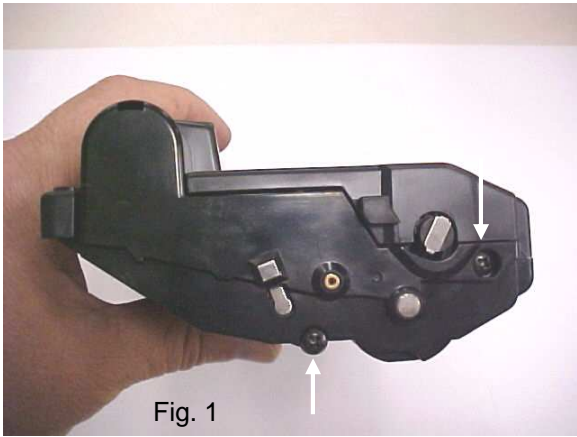

Fig. 1
1. Use a Phillips screwdriver to remove the screws on the contact side, (left side) of the cartridge (Fig. 1).